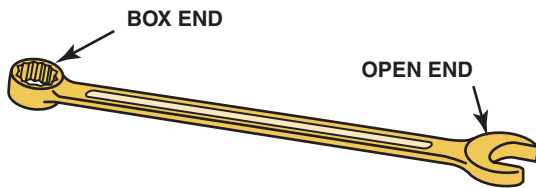

FIGURE 1-18 A combination wrench has an open end at one end and a box end at the other end.
- Most service technicians purchase *combination wrenches*, which have the open end at one end and the same size box end on the other end. ● **SEE FIGURE 1-18.**